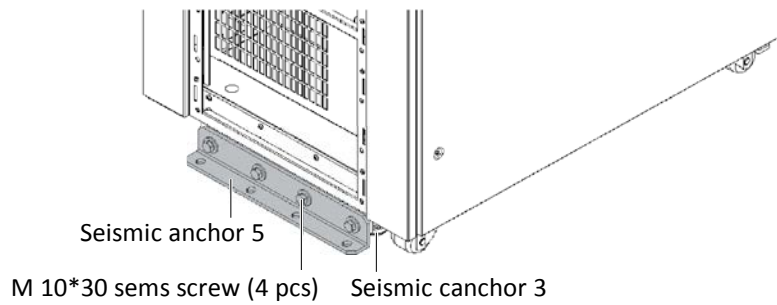

Figure 8-19 Fixing seismic anchor 5 onto seismic anchor 3
5. Use four M10 × 30 sems screws to fix seismic anchor 5 onto seismic anchor 3, as shown in Figure 8-19.